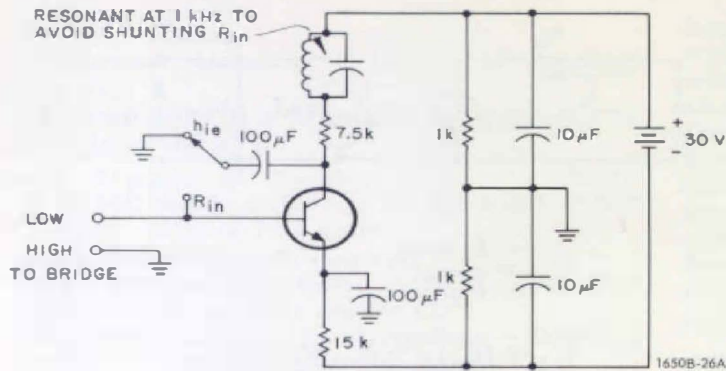

Figure 3a. The  $h_{ie}$  test jig.
a. Use the  $R_{ac}$  bridge and the  $h_{ie}$  test jig (Figure 3a). Turn the OSC LEVEL control way down to ensure a small-signal measurement of the forward-biased base-to-emitter junction. The diffusion capacitance of the junction is balanced using an external capacitance